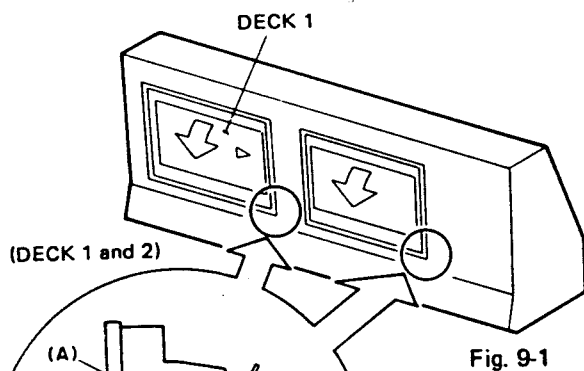
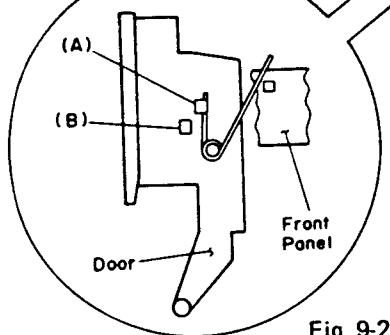

Fig. 9-1
Fig. 9-2
Set the door spring of DECK 1 side to position (A) as shown in Fig. 9-2. Then, erect the front panel assembly vertically as shown in Fig. 9-1. Open the doors of DECK 1 and DECK 2 at the same time. At this point, confirm that the difference between opening degree of both doors is within 15mm when one side of the door is opened completely. When this standard is not satisfied, change the door spring installation position of Deck 1 and perform the adjustment as follows: